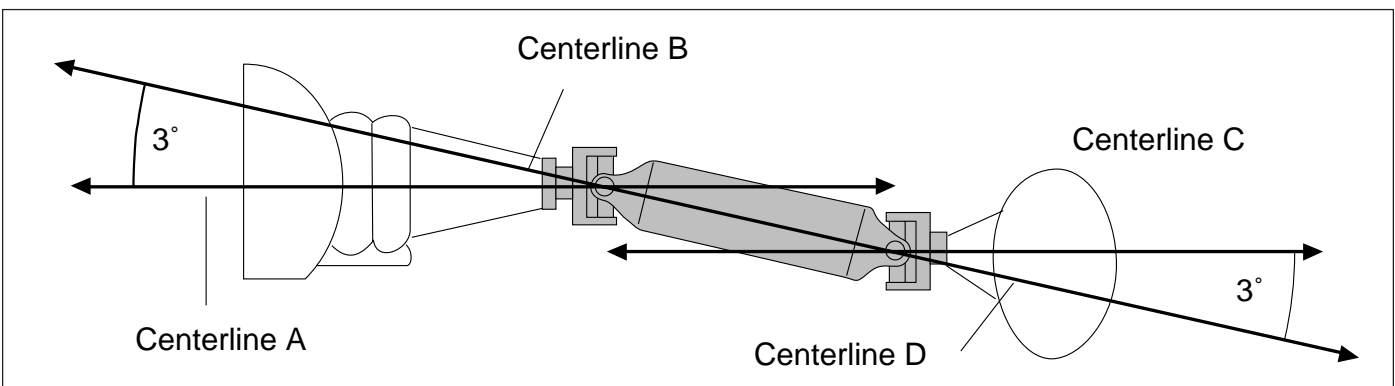

Figure 12
5. Push the U-bolts (H) all the way in. Secure them with the supplied washers and nuts.
8. Position the upper link so that it is parallel with the lower links. Measure the pinion angle and verify that the angle is equal to, but opposite from, the angle of the rear face of the tailshaft of the transmission (Figure 12).